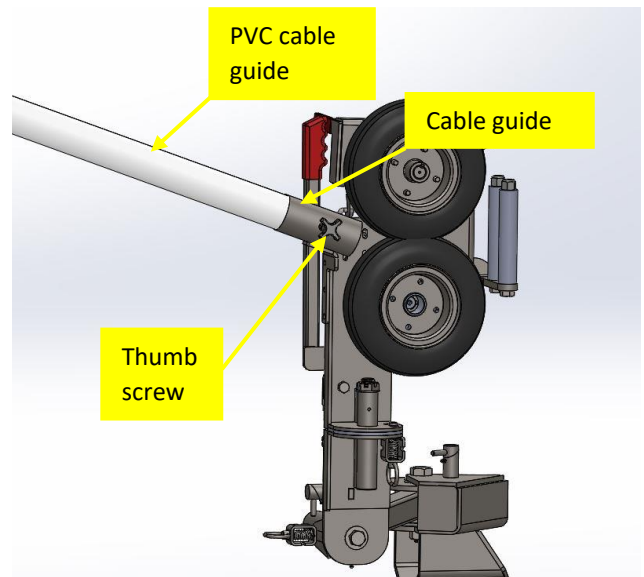

Figure 6
5. Install the PVC cable guide with the slots upward into the cable guide by loosening the thumb screw on the side of it and tighten the thumb screw until the pipe is snug. **Figure 6**